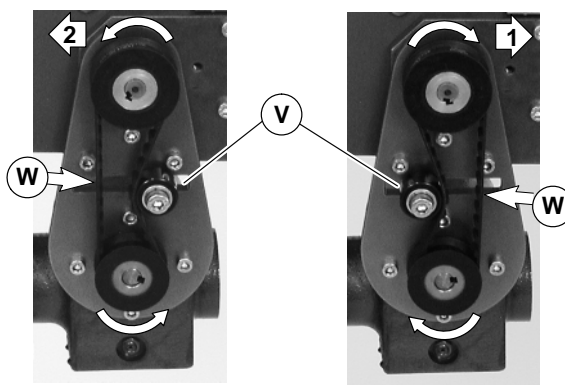

Figure 10
8. Depending on conveyor belt travel (direction 1 or 2), locate timing belt tensioner (V of Figure 10) as shown. Tension timing belt to obtain 3 mm deflection for 456 grams of force at timing belt mid-point (W). Tighten tensioner screw to 12 Nm.
3. Depending on conveyor belt travel (direction 1 or 2), locate timing belt tensioner (V of Figure 10) as shown. Tension timing belt to obtain 3 mm deflection for 456 grams of force at timing belt mid-point (W). Tighten tensioner screw to 12 Nm.
5. Depending on conveyor belt travel (direction 1 or 2), locate timing belt tensioner (V of Figure 10) as shown. Tension timing belt to obtain 3 mm deflection for 456 grams of force at timing belt mid-point (W). Tighten tensioner screw to 12 Nm.